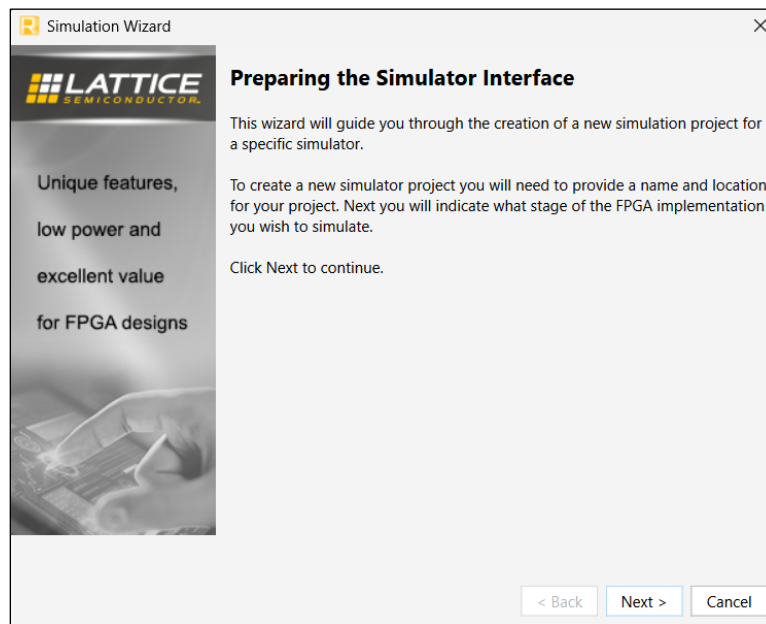

Figure 7.8. Simulation Wizard (View 1)
- Click the  button located on the **Toolbar** to initiate the **Simulation Wizard** shown in Figure 7.8.